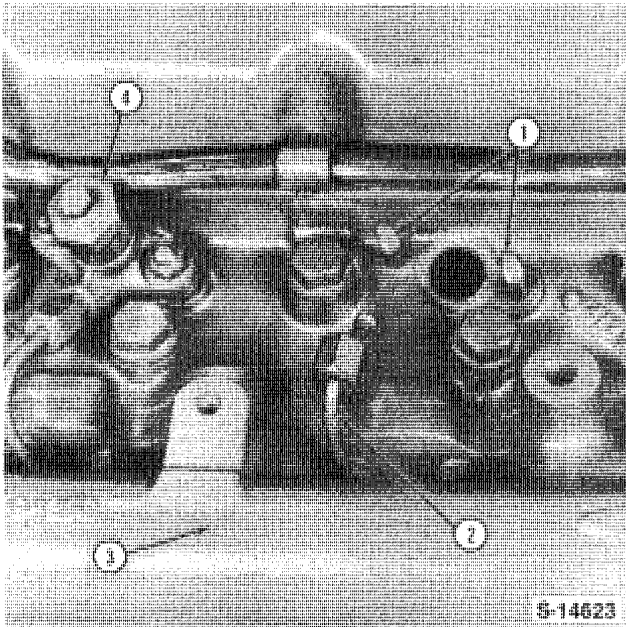

**Figure 5**
14. On diesel engines, hold the leak-off pipe at each injector and carefully disconnect the fuel injector leakoff pipes. Clean the area surrounding the fuel injectors then remove the bolts and carefully withdraw the fuel injectors and washers, Figure 5.